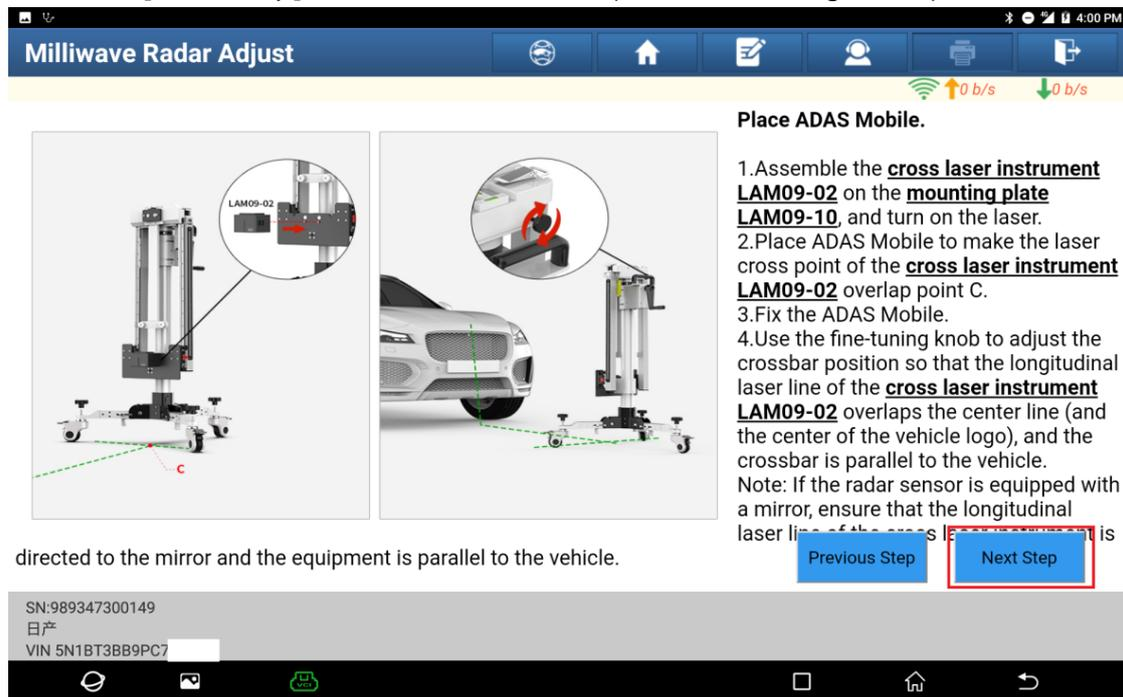

Figure 11
11. Click [Next Step]. Place ADAS Mobile (as shown in Figure 11).